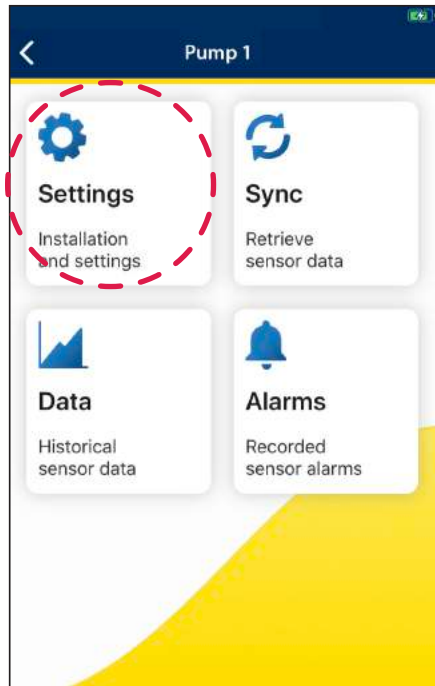

Figure 14
1. Select **Settings** (see figure 14).